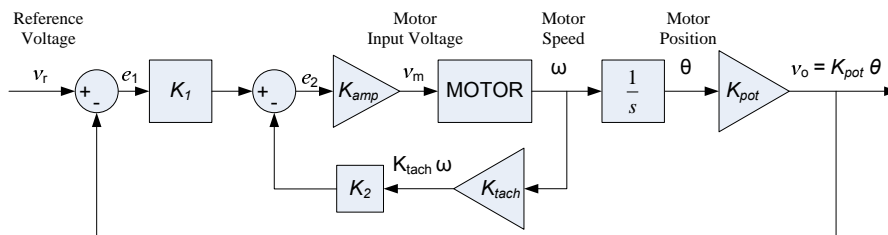
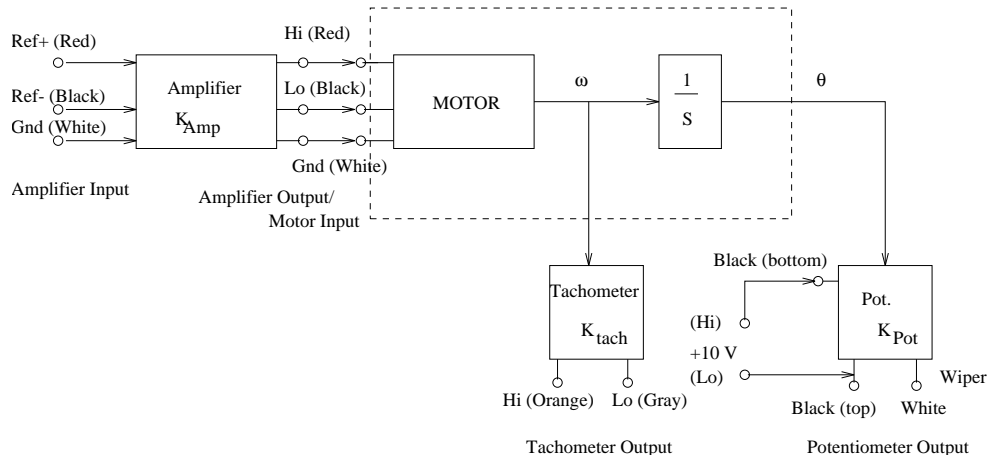
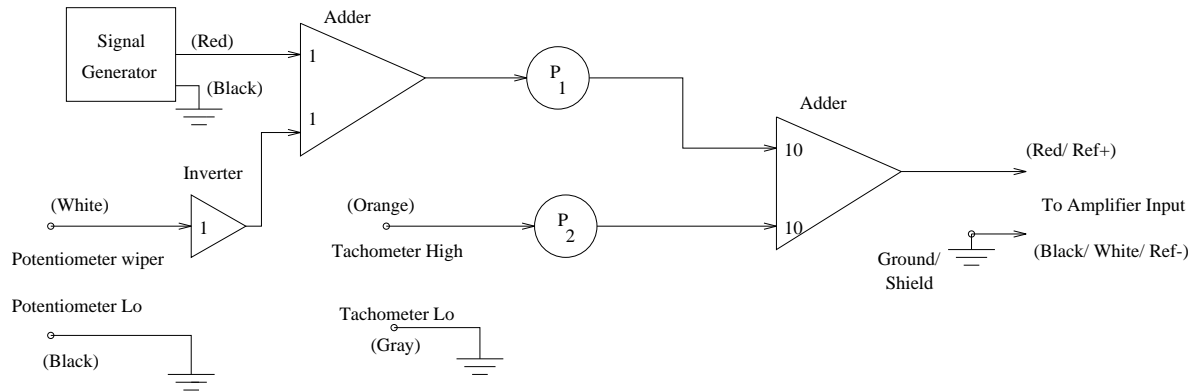

Figure 5.1: A Feedback Control System for the DC Motor
Figure 5.2: Motor Block Diagram.
Figure 5.3: Analog Computer Wiring Diagram.
- We next consider the design of a closed-loop position control system using PD control. The structure is shown in Figure 5.1. For the sake of concreteness, assume from now on that the block MOTOR has the transfer function
In the lab, we will connect the system illustrated in Figure 5.2 to the analog computer set up shown in Figure 5.3, to create the closed-loop system of Figure 5.1. We are then interested in the voltage from the potentiometer, the output of the system, and how it behaves as the reference input voltage v_r is varied. This reference input will be supplied by the HP waveform generator.
- (e) Draw a wiring diagram for the analog computer setup shown in Figure 5.3 (P_1 and P_2 are variable). (This diagram implements the PD control law.)
6. To understand what portion of the control loop is accomplished in SIMULINK, refer to Figure 5.1. The inputs to the PC are $V_{\text{pot}} = v_o$ and $V_{\text{tach}} = K_{\text{tach}} \cdot \omega$, and the output from the PC is e_2 . Therefore everything between the inputs and the output will be done in software. You will also output v_r for display on the oscilloscope.